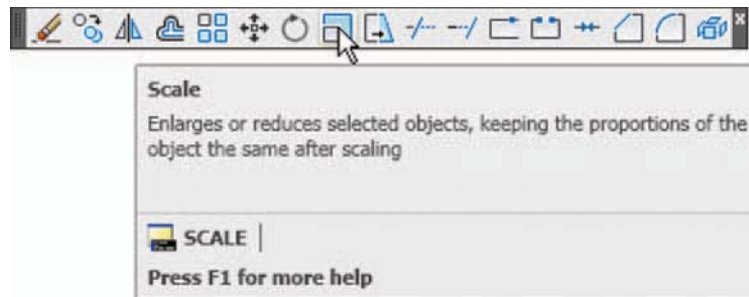

Fig. 5.28 The **Scale** tool icon from the **Modify** toolbar
2. Call **Scale** – *left-click* on its tool icon in the **Home/Draw** panel (Fig. 5.28), *pick* its tool icon in the **Modify** toolbar, *pick* **Scale** from the **Modify** drop-down menu, or *click* its tool in the **Modify** toolbar, or *enter* **sc** or **scale** at the command line which then shows: